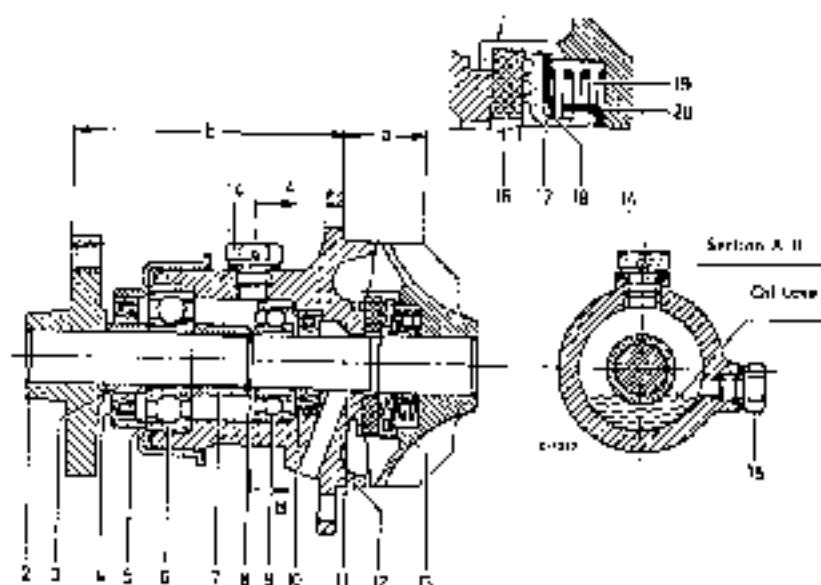

Fig 20-5/1
The vent hole in cap screw (14) (Fig. 20-5/1) has been enlarged to prevent oil losses as a result of insufficient venting of water pump housing. The present standard-type cap screw with a larger vent hole has part No. 127 997 00 30; it can also be added subsequently. If no new cap screw is available, the axial hole of the formerly used cap screw can be drilled from 3 to 6 mm dia. and the cross hole at the hexagon from 1.5 to 2 mm dia.